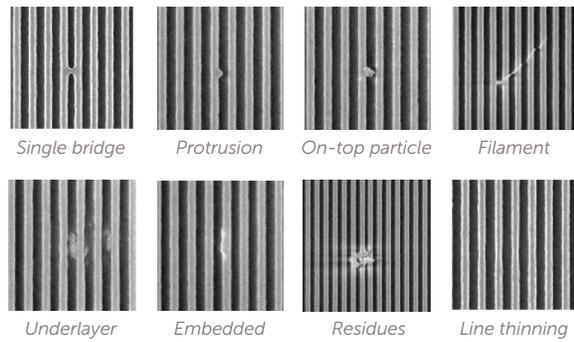

Figure 2. Defect library used in this work.
**Defect library:** Defects were classified as in the defect library reported on Figure 2.